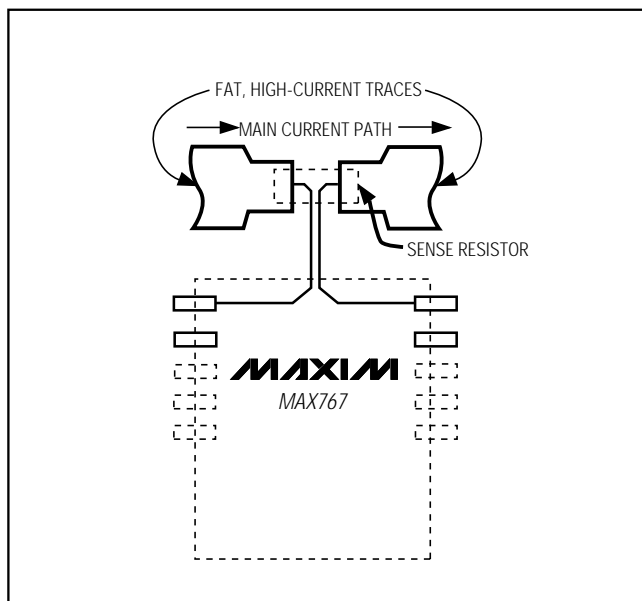

Figure 2. Kelvin Connections for the Current-Sense Resistor
2. Because the sense resistance values are similar to a few centimeters of narrow traces on a printed circuit board, trace resistance can contribute significant errors. To prevent this, Kelvin connect CS and FB to the sense resistor; i.e., use separate traces not carrying any of the inductor or load current, as shown in Figure 2. These signals must be carefully shielded from DH, DL, BST, and the LX node. **Important: place the sense resistor as close as possible to and no further than 10mm from the MAX767.**
Since the sense-resistance values are similar to a few centimeters of narrow traces on a printed circuit board, trace resistance can contribute significant errors. To prevent this, Kelvin connect the CS and FB pins to the sense resistors; i.e., use separate traces not carrying any of the inductor or load current, as shown in Figure 2.